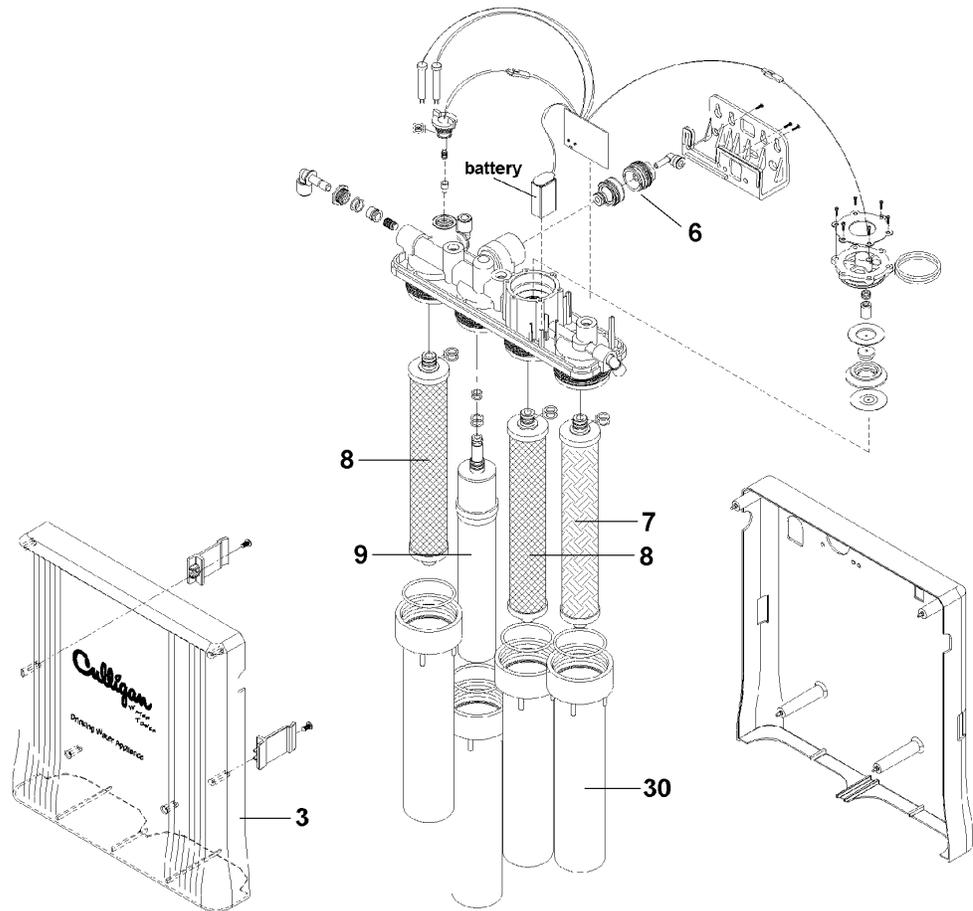

Figure 5
Item callouts refer to Figure 5 unless otherwise noted.
5. Remove each filter housing (Item 30) by turning it counter-clockwise. Remove each filter cartridge (Figure 5).
21. Install cartridges. (Refer to Figure 5 for location of each cartridge).